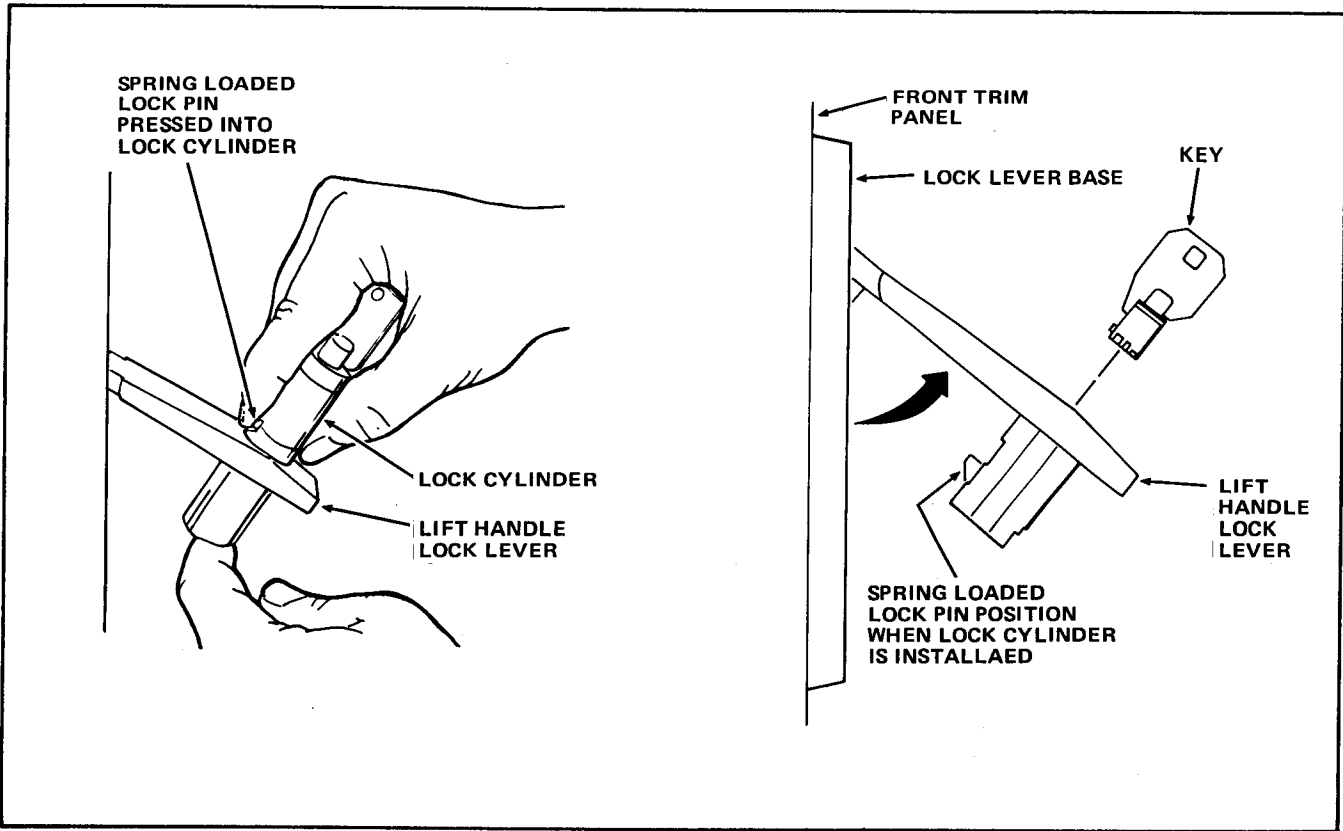

FIGURE 9
7. Insert the Lock Cylinder into the Lift Handle Lock Lever, Lock-pin up. See Figure 9.